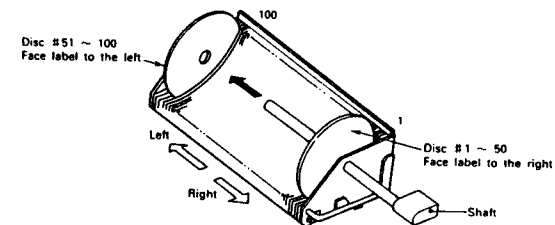

Figure 12
2) Place the discs on the disc racks. (referring to Figure 12, 13.)